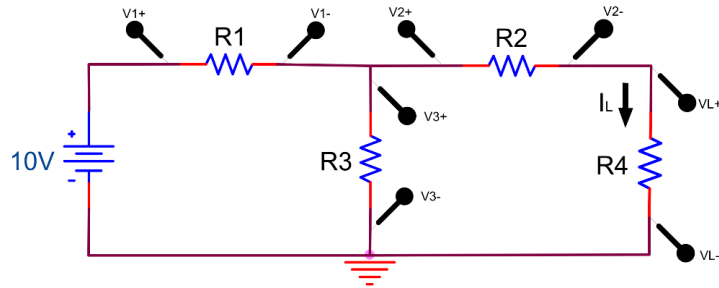

Figure 7.8
5. Verify that the circuit is operating correctly (Figure 7.8) by changing R_4 for the resistor values located in the table below. Plot the graph using Excel when completed (Power vs Resistance), verify that the plot looks correct.